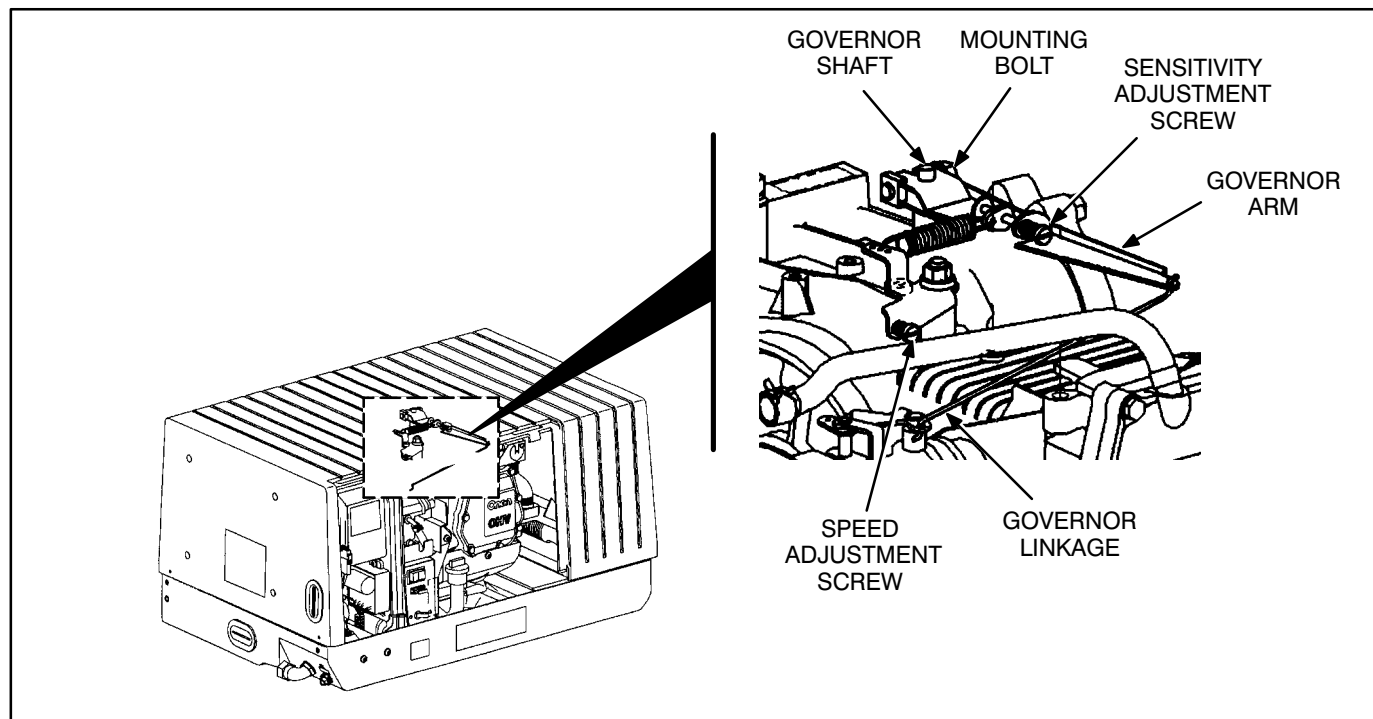

FIGURE 8-7. GOVERNOR ADJUSTMENTS
3. With unit operating at no-load, adjust the speed adjustment screw (see Figure 8-7 on Page 8-10) on the governor linkage to obtain 62 Hz, and 127.5 ± 4.5 volts. Set 50 hertz units to obtain 52.0 ± 0.5 Hz at between 220 and 231 volts for 220 volt units and 240 to 252 volts for 240 units. To increase the engine speed, turn the adjustment screw clockwise. To decrease the engine speed, turn the adjustment counter-clockwise.